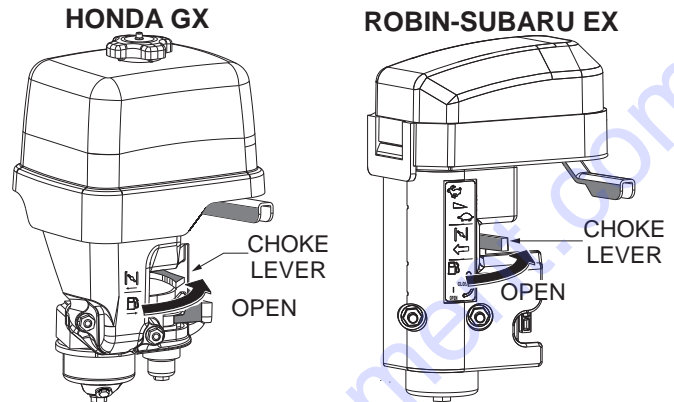

Figure 35. Choke Lever (Open)
- If starting a warm engine, place the choke lever in the **OPEN** position (Figure 35).